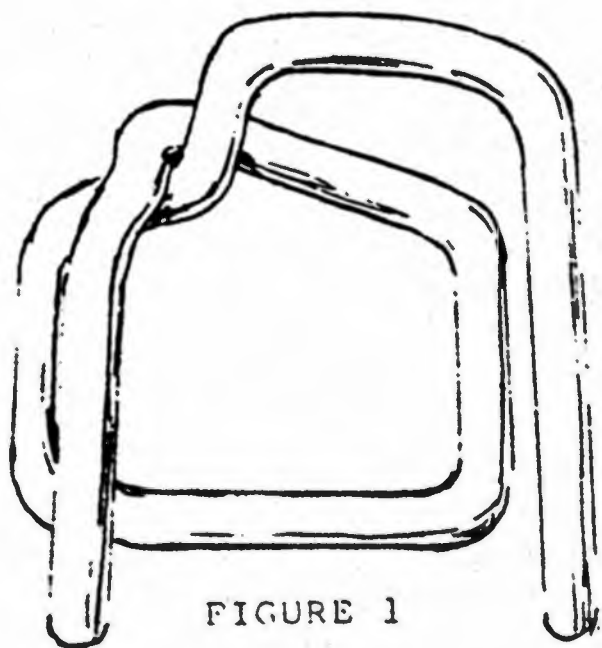
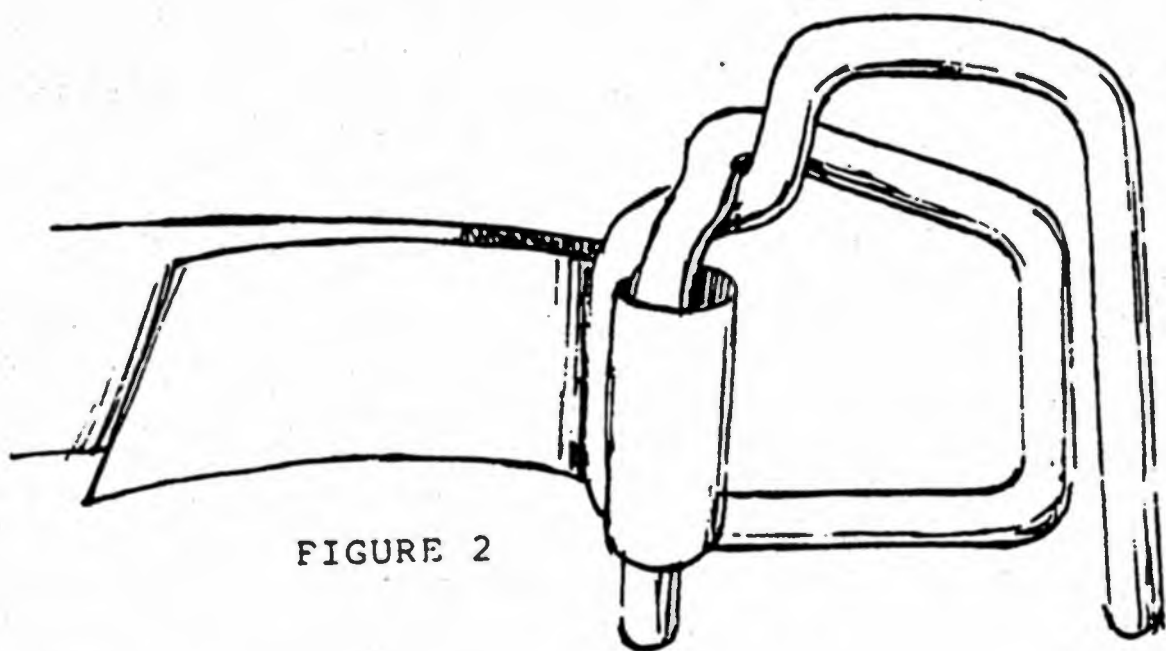

FIGURE 1
FIGURE 2
- 6.5.3. Starting with top band, and with buckle held with legs pointing downwards and towards yourself (Figure 1) pass left hand end through buckle as shown in Figure 2.